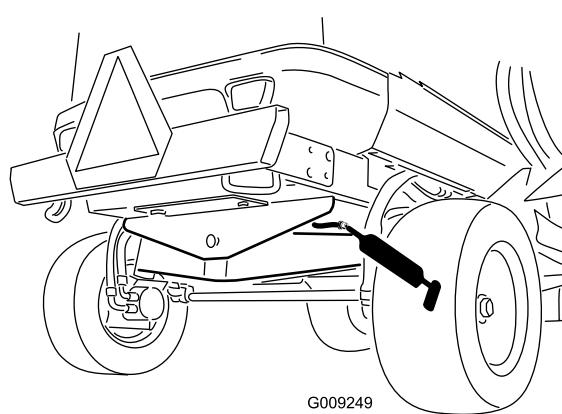

Figure 71
- 1 rear axle-pivot bushing (Figure 71)